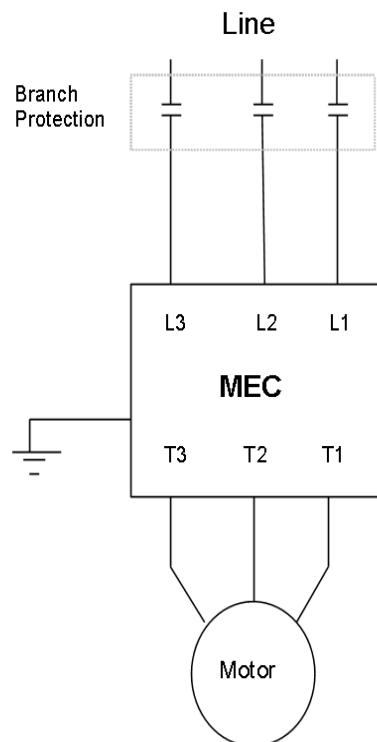

Figure 8 - Power Wiring
- This product is designed for use with upstream branch circuit protection as shown in Figure 8. Please see section 8.1 for specifications for circuit breakers and fuses.
- The Motor Efficiency Controller power wiring locations are shown above in Figure 8.